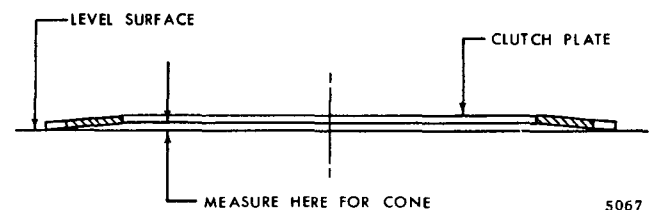

Fig. 4-3. Method of determining cone of clutch plate
(3) The amount of cone is determined by measuring the distance between the inside diameter of the plate and a level surface (fig. 4-3). Discard plates having excessive cone (refer to wear limits, Section 8). When assembling a clutch pack, soak plates in type C 2 oil for at least 2 minutes and make sure that each plate is installed so that its cone is in the same direction as the cone of the adjacent plates.